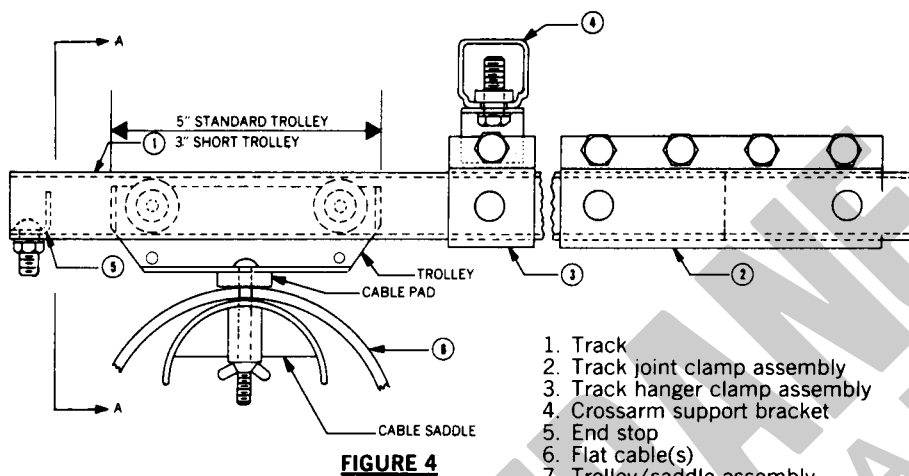

FIGURE 81
5. Butt track sections together and secure with track joint clamps as shown in Figure 81.
8. Insert and secure the end stop in track end farthest from cable feed point. Refer to Figure 81.
CHECK THAT END STOP (ITEM 5 OF FIGURE 81) IS SECURELY FASTENED.